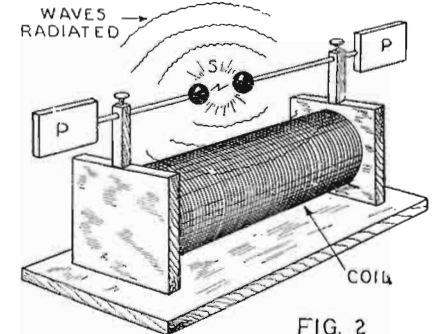

FIG. 2
Fig. 2 shows the simple manner in which Hertz produced his waves. The oscillator consists of two similar brass rods terminating at one end in polished brass knobs. At the other ends were fixed metallic plates (P) which acted as condensers. These were fastened as shown to the secondary terminals of the induction coil. The passage of an oscillatory discharge through the gap caused the emission of the electric waves. The more rapid the oscillations, the more frequently the waves are produced and consequently, since the speed of all is the same, the shorter the wave-length. This condition may be brought about by decreasing the size of the oscillator and the condenser plates, for less electricity may then be stored within it. It was by increasing the size of the inductances and capacities that Marconi was enabled to obtain the longer waves he used for wireless telegraphy.
Professor Nichols' oscillator is similar to that shown in Fig. 2 except that it was reduced to the smallest possible size. Fig. 6 shows its construction, except that the parts are quite out of proportion. Two minute pieces of fine tungsten wire, A, only two-tenths of a millimeter long, were sealed into the ends of the glass tubes B, immersed in kerosene oil and so adjusted that the gap between them was not more than a few thousandths of a millimeter. The high potential leads from the induction coil were put into the open ends of tube to within 2 mm. of the tungsten wires.
The oscillograph which Dufour designed to meet these conditions is sketched in Fig. 2. The glass tube BD contains the cold cathode at C, the anode, with its perforation through which the electrons shoot, at A, and a pair of deflecting plates at K to act on the beam leaving A. The lower part of the instrument, below D, is a casting of dense bronze with windows of glass at the sides, WW, and a removable front wall, S, ground in like a stopper so as to be air-tight. At L and M outside the tube are two pairs of current coils through which current can be passed to produce magnetic fields that deflect the electron pointer. These pairs of coils are fixed in a frame at right angles,
Showing how the oscillating and direct currents in the coils of Fig. 2 combine to show the exact wave-form of the former.